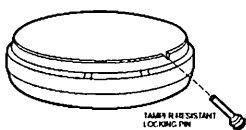

Figure 3
6.7 To make your carbon monoxide alarm tamper resistant, a locking pin has been provided in the bag with the screws and anchors. Using this pin will deter children and others from removing the alarm from the mounting plate. To use the pin, insert it into the hole in the side of the alarm after the alarm has been installed on the mounting plate (see fig. 3). Note the tamper resist pin will have to be removed in order to change the battery.
IF TAMPER RESISTANT PIN HAS BEEN USED, REFER TO STEP 6.7 UNDER INSTALLATION INSTRUCTIONS FOR REMOVAL INSTRUCTIONS. (see Figure 3)